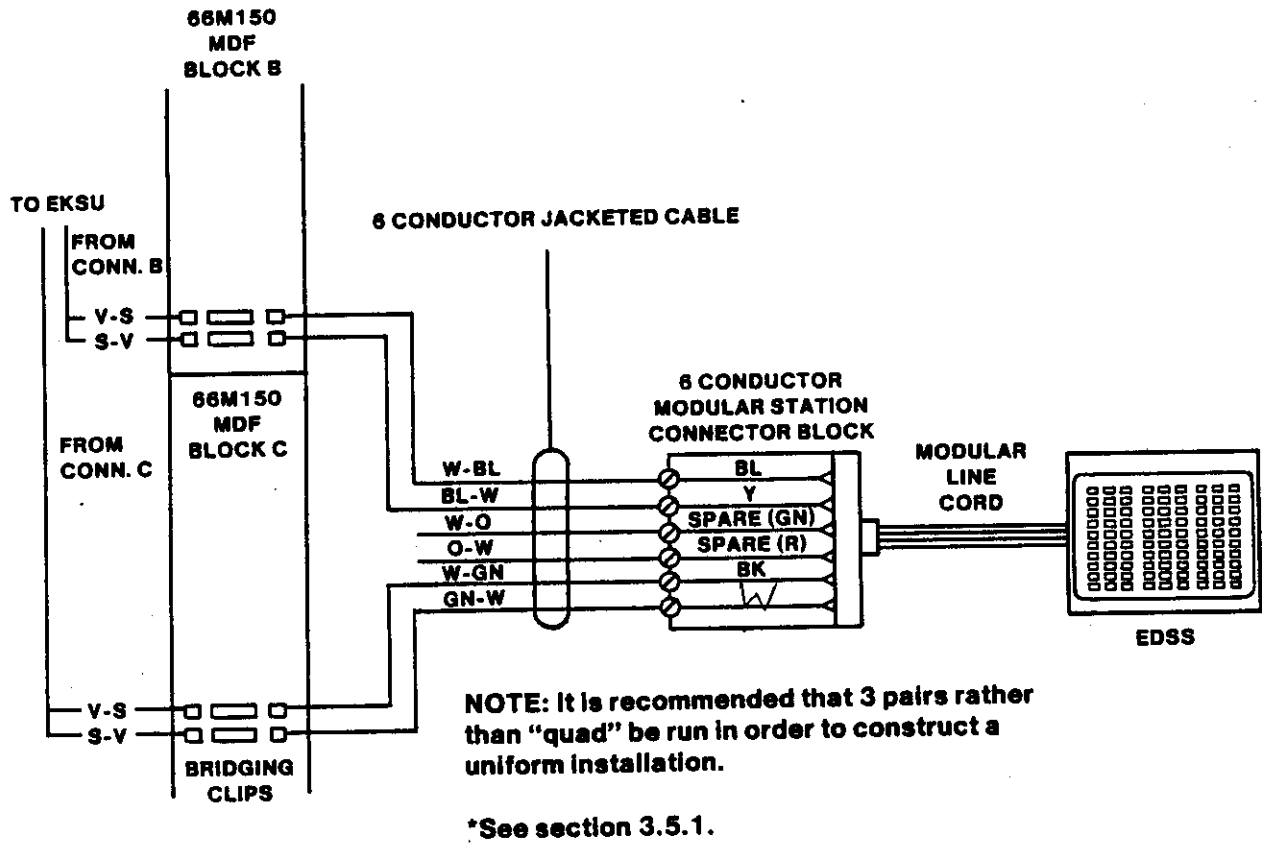

FIGURE 2—EDSS RUNNING CABLE CONNECTIONS
6.1 Place the bridging clips between the EKSU feature pin for the EDSS and the termination pins for the EDSS running cable on MDF blocks B and C (see Figure 2).
3.2 Terminate the W-BL and W-GN pairs as shown in Figure 2. The W-O and O-W running cable conductors are spare.
3.5 Connect the running cable to the station connector block wires as shown in Figure 2.